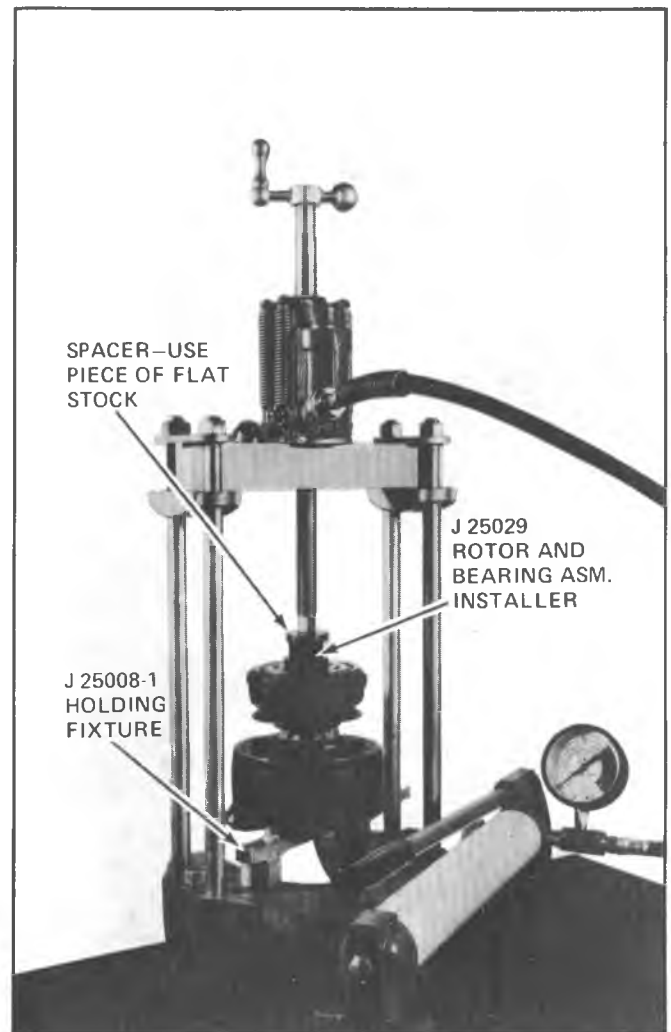

Fig. 84—Installing Rotor and Bearing Assembly
Press rotor and bearing assembly onto the front head of the compressor, using Rotor and Bearing Assembly Installer J-25029 (Fig. 84). The Installer will apply force to the inner race of the rotor bearing when installing the
6. Assemble and fully seat pulley rim to clutch rotor and bearing assembly as shown in Figure 84, using Loctite RC-75 or equivalent on screw threads and use new lockwashers. Do not torque mounting screws to final torque limits until pulley rim is checked to be rotating "in line".
7. Tighten pulley rim mounting screws to a 100 inch pounds torque and lock screw heads in place as shown in Figure 84.
2. Place assembly on neck of front head and seat into place using rotor bearing remover and rotor assembly installer J-25029 as shown in Figure 84. Before fully seating the assembly on front head, be sure the clutch coil terminals are in the proper location in relation to compressor and that the three protrusions on the rear of the clutch coil align with the locator holes in front head.
5. Install clutch rotor and bearing assembly, clutch coil and pulley rim assembly to front head (Fig. 84). Before fully seating the assembly on front head be sure clutch coil terminals are in the proper location in relation to compressor and that the three protrusions on rear of clutch coil align with the locator holes in front head.